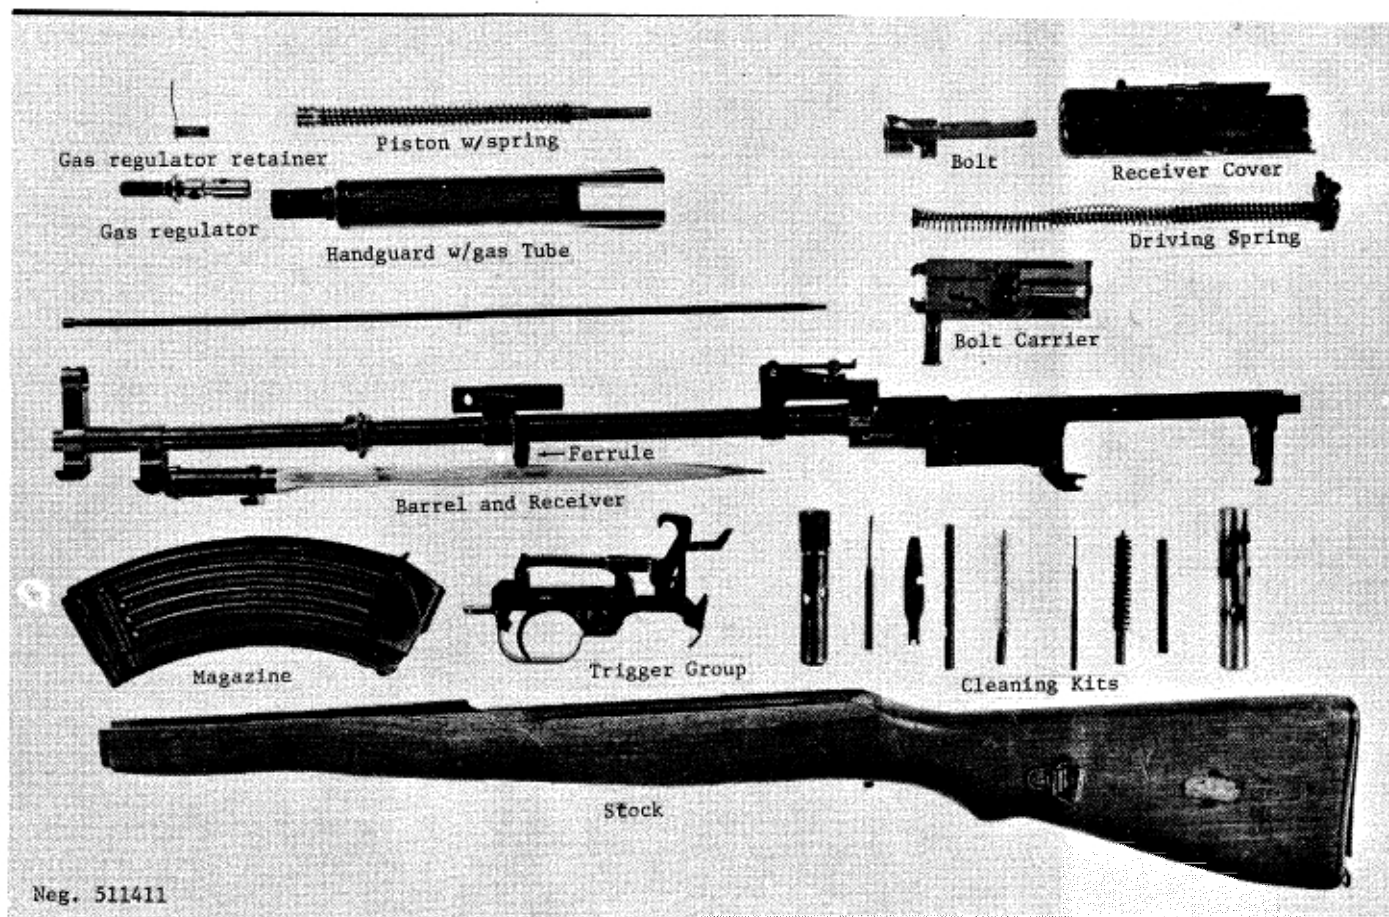
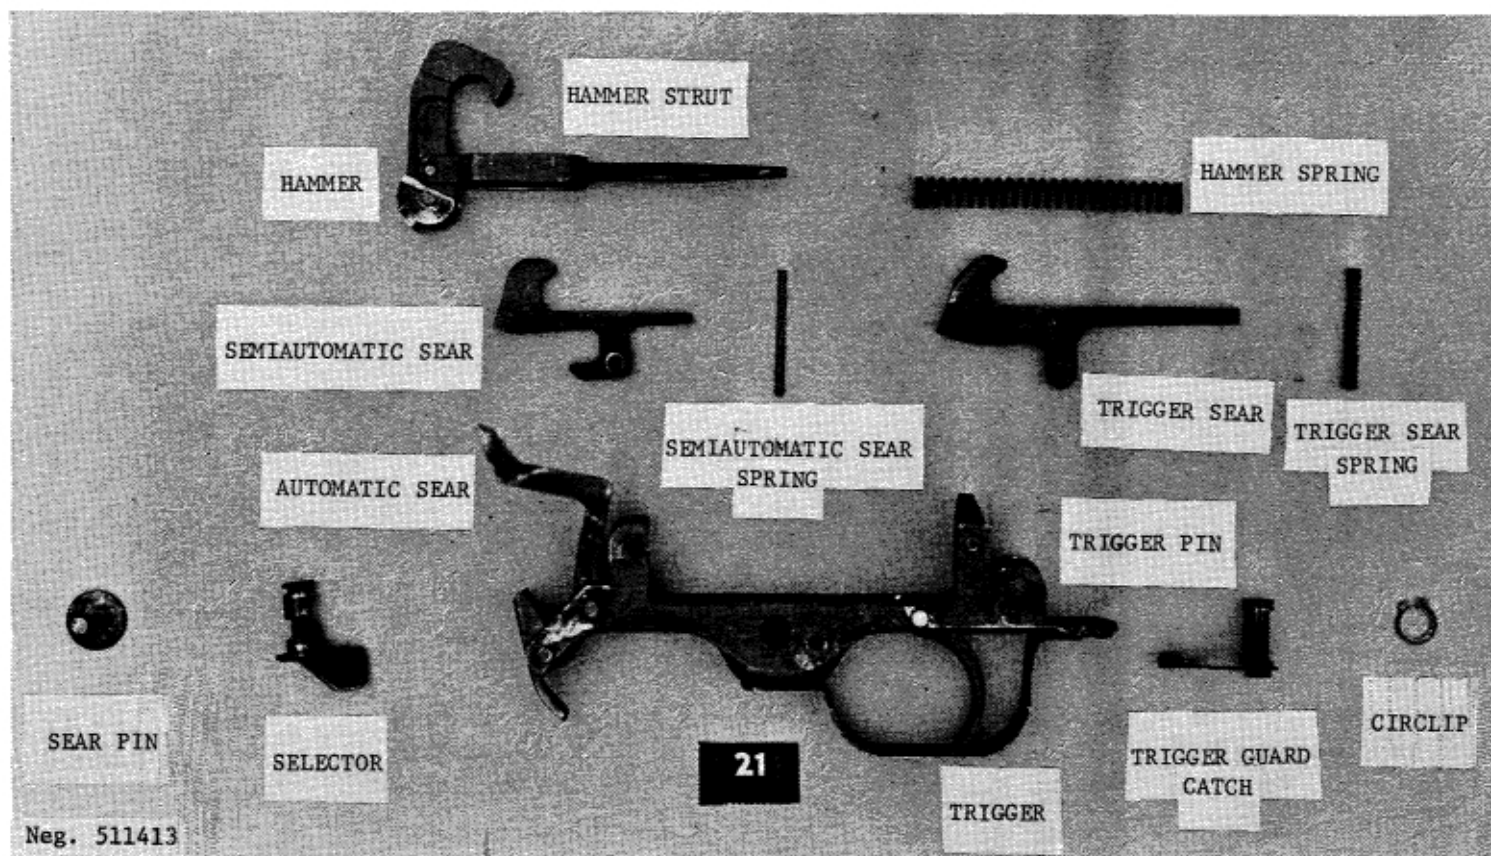

Figure 111. Type 68 field stripped.
Figure 113. Type 68 trigger mechanism.
i. To reassemble the rifle, first engage the front of the stock with the ferrule on the gas cylinder (fig 111) and seat the stock onto the receiver. Fold the bayonet. Cock the hammer (fig 113), then press the automatic sear (fig 113) out of engagement with the hammer. Place the trigger group into the stock and guide the automatic sear into its slot at the left rear side of the magazine opening in the receiver. Seat the pins in the front of the trigger group into the recesses in the receiver, then force the rear end of the trigger group down against the stock. Rotate the trigger guard catch to the rear until it is flush with the guard.
e. The trigger mechanism has three sears (fig 113). The automatic sear is located in front of the hammer and is actuated by the bolt carrier (d above). The trigger sear is to the right, behind the hammer and the semiautomatic sear is to the left. The trigger sear always moves when the trigger is pressed or released, but the semiautomatic sear functions only when the selector is set "1" or semiautomatic fire.
- (1) Extra magazines.
- (2) Web sling.
- (3) Cleaning kit.
- (4) Oiler.
b. The cleaning kit is similar to that used with the AK-47 (para 95b). The Type 68 cleaning kit also has a reamer (fig 111) for cleaning the gas port. With the regulator and piston removed, insert the reamer into the angled hole in the top of the gas cylinder and gently twist it inward until it enters the barrel bore. Use care; the reamer can cut the gas port oversize and ruin the barrel.